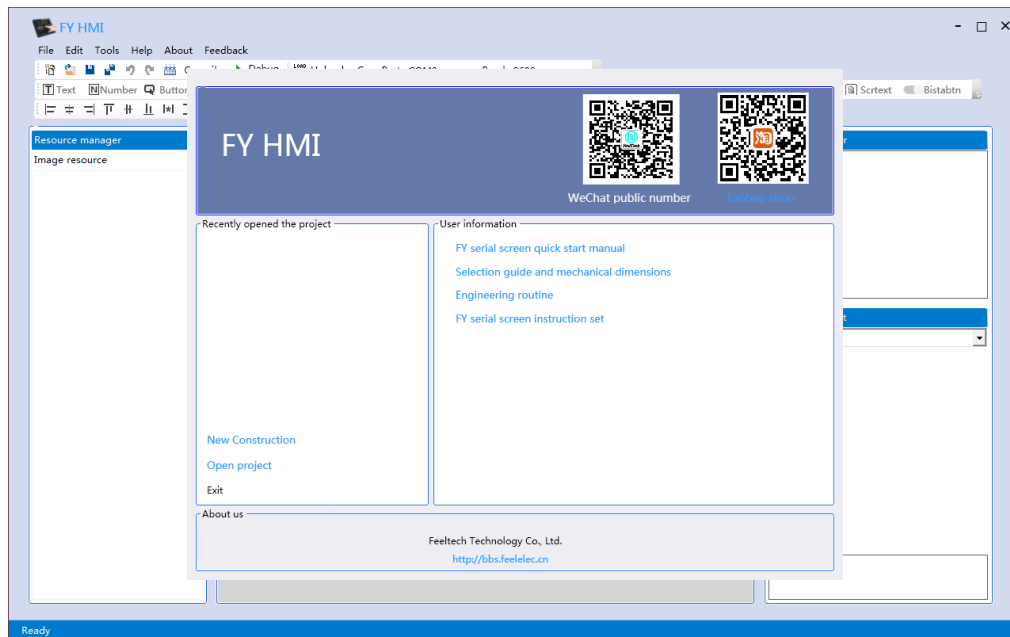

Figure 4-2
3. After the installation is complete, automatically add software shortcuts on the desktop, click to display the software interface, as shown in Figure 4-2: